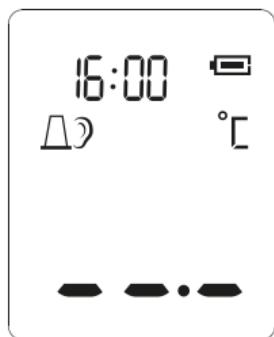

Figure 2
3. After self-checking Figure 2 appears on the display screen with beeps, so you can start a new measurement.